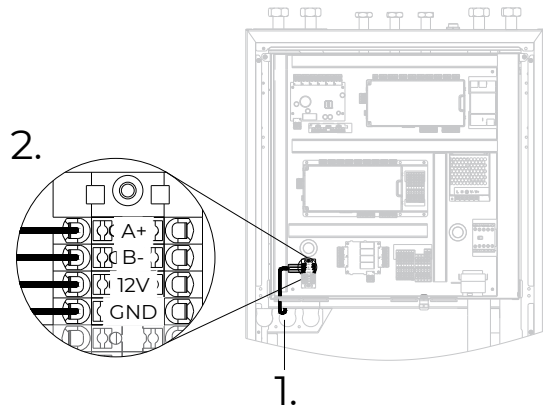

Figure 17: Connecting the communication cables of the controller and the thermostats KT-2A / KT-1
1. Thread the UTP cable (or 4 x 0.5 mm²) through the gland on the left side of the electrical box (Figure 17).